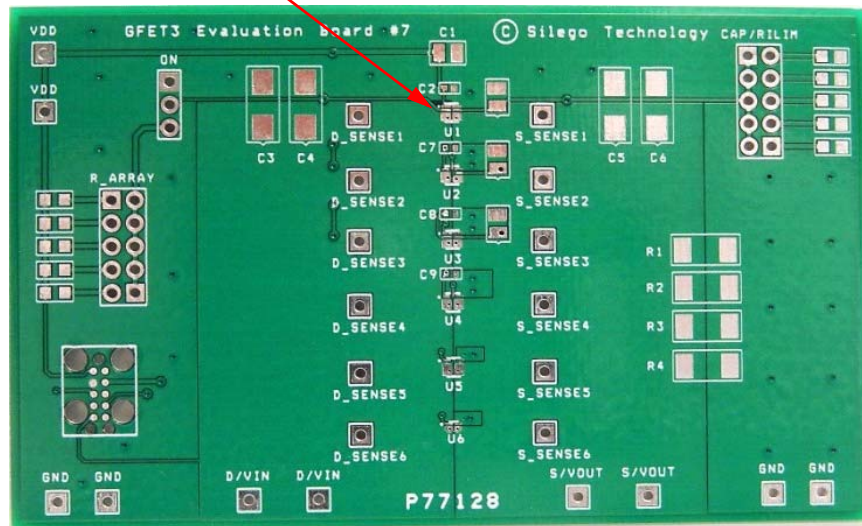

Figure 1. SLG59M1448V Evaluation Board.
2. Since the D and S pins dissipate most of the heat generated during high-load current operation, it is highly recommended to make power traces as short, direct, and wide as possible. A good practice is to make power traces with absolute minimum widths of 15 mils (0.381 mm) per Ampere. A representative layout, shown in Figure 1. , illustrates proper techniques for heat to transfer as efficiently as possible out of the device;
A GreenFET Evaluation Board for SLG59M1448V is designed according to the statements above and is illustrated on Figure 1. . Please note that evaluation board has D\_Sense and S\_Sense pads. They cannot carry high currents and dedicated only for RDSON evaluation.